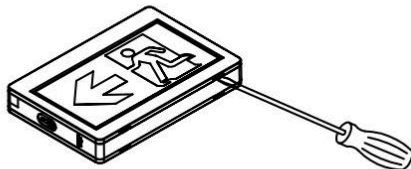

Fig.1
1. Open front cover by blade screwdriver (see Fig.1 below)